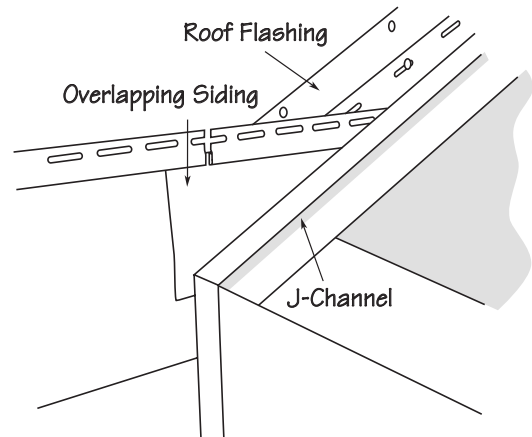

Figure 42.
- Cut a small piece of siding that will be placed on top of the previous piece of siding and sits in the roof J-channel (Fig. 42).